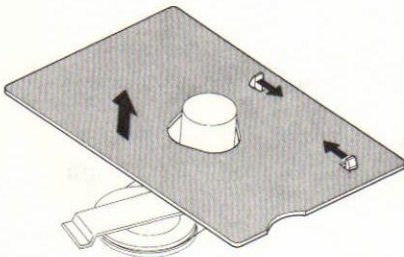

Fig. 10
- 1) Remove 7 screws. (Refer to Fig.10, 11)
- 1) Remove the rec./pb. circuit board. (Refer to Fig. 10)